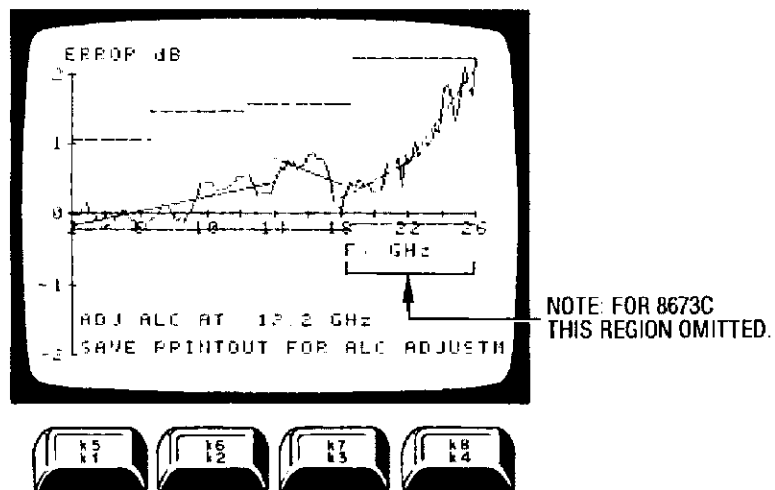

Figure 5-38. Typical Flatness Plot Before Adjustment
- c. A copy of the flatness plot is printed. See figure 5-38.